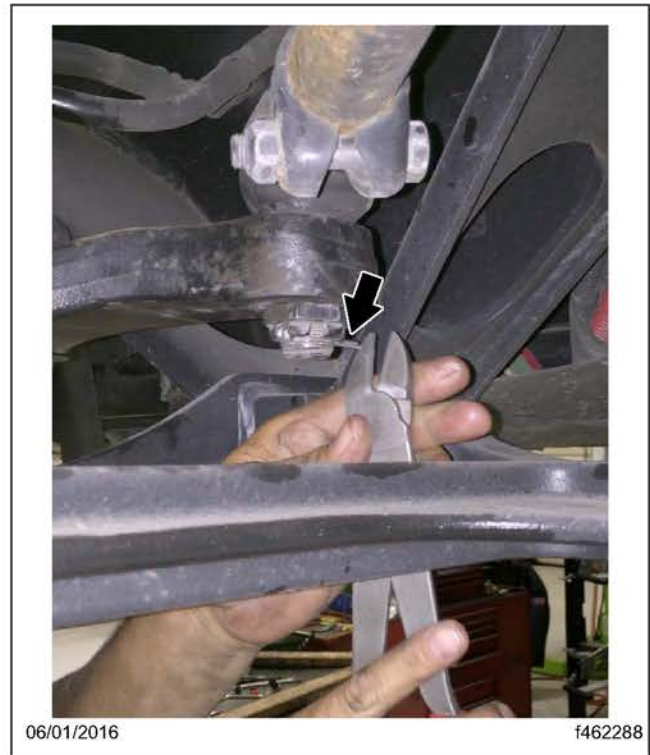

Fig. 19, Installing the Cotter Pins
- 14.3 Install the cotter pins. See Fig. 19.